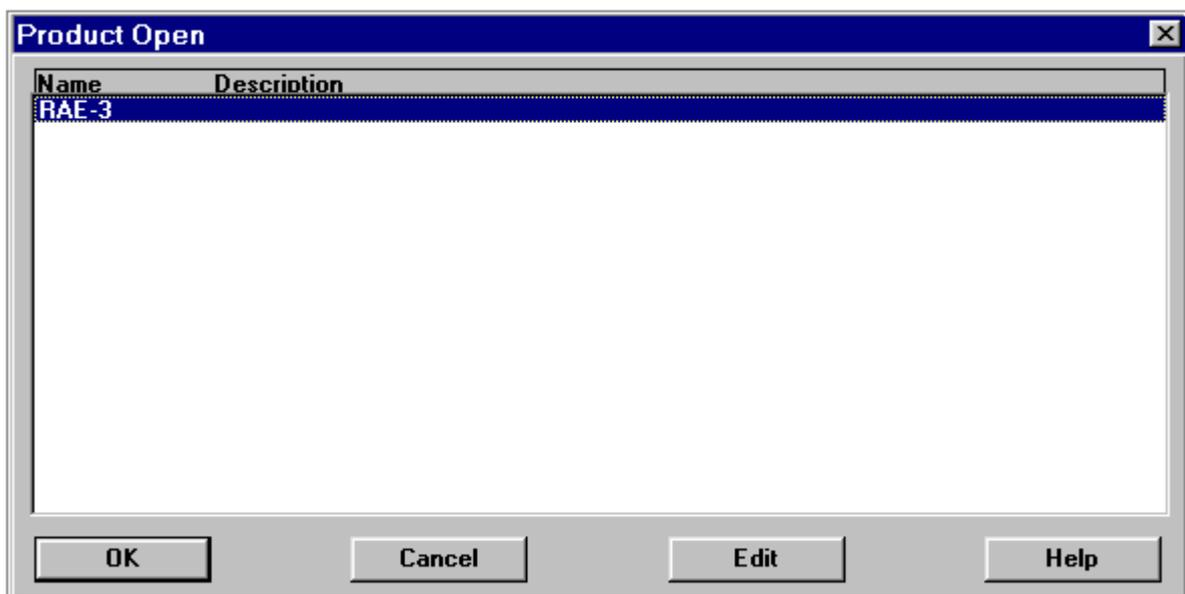

Figure 6. Product Open
4. Select *Product* → *Open* → *RAE-5* for N9290 (see Figure 6)